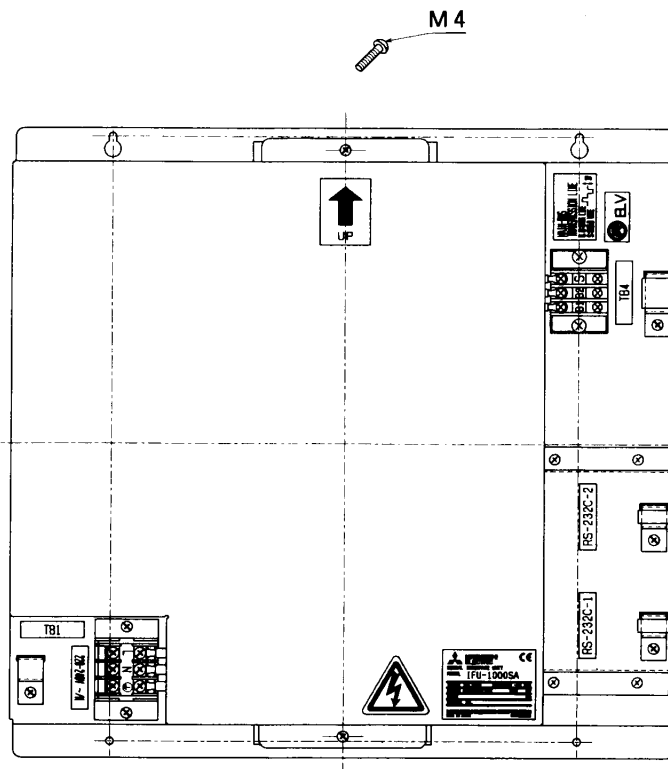

Fig. 5-1
- (1) Remove the screw (2pcs) holding the cover to dismount the cover as shown in the Fig.5-1.